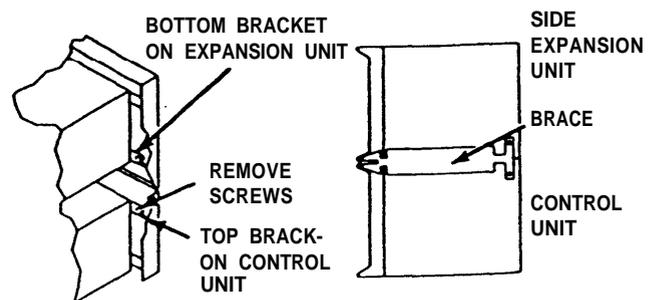

Figure 3
6. On right side of the control unit remove the screw from top bracket and on expansion unit from bottom bracket. (See Figure 3.)
7. Find one of the braces shipped with the expansion unit. Insert the forked end of the brace into the slots of the two units. (See Figure 3.)